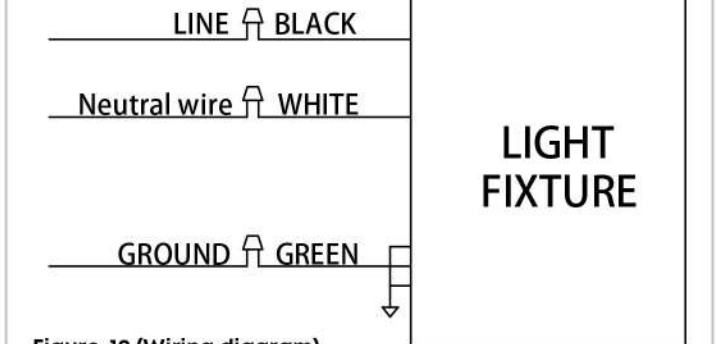

Figure-10 (Wiring diagram)
1. Connect the cable in the Slipfitter holder to the municipal wire, as shown in Figure-10.
3. Connect the cable of lamp with the municipal wire, as shown in Figure-10, then make the seals waterproof.